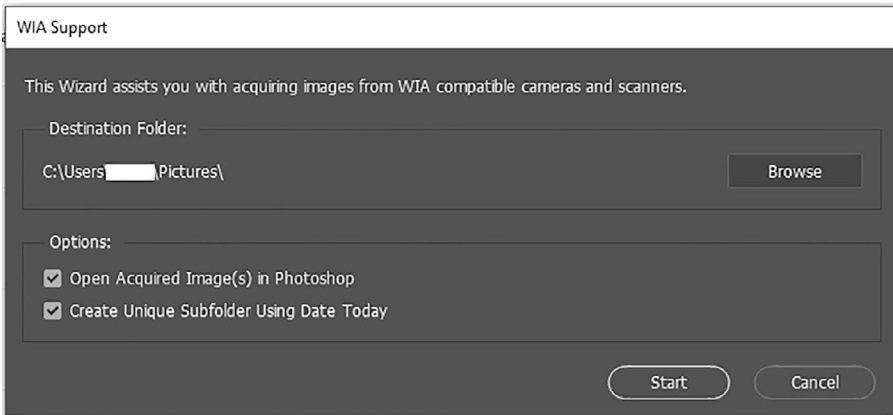

Figure 1-21. *WIA Support dialog box*
However, let me demonstrate how the typical procedure of image acquisition might go, though there may be slight differences depending on your computer or scanner version. I demonstrate the steps I use for my scanner in Photoshop CC 2024 on the Windows 10 computer. Refer to Figure 1-21.
1. Once you open Photoshop, go to File ► Import ► WIA Support. Refer to Figure 1-21.